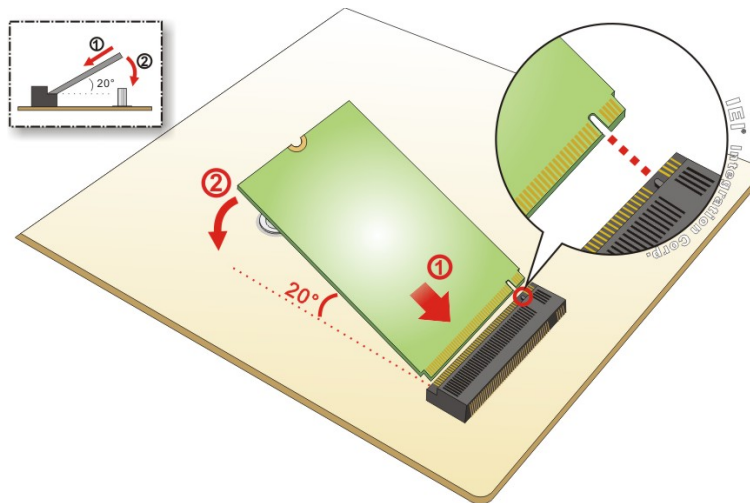

Figure 3-6: Inserting the WLAN Module
Step 2: Line up the notch on the WLAN module with the notch on the slot. Slide the WLAN module into the slot at an angle of about 20° (Figure 3-6).